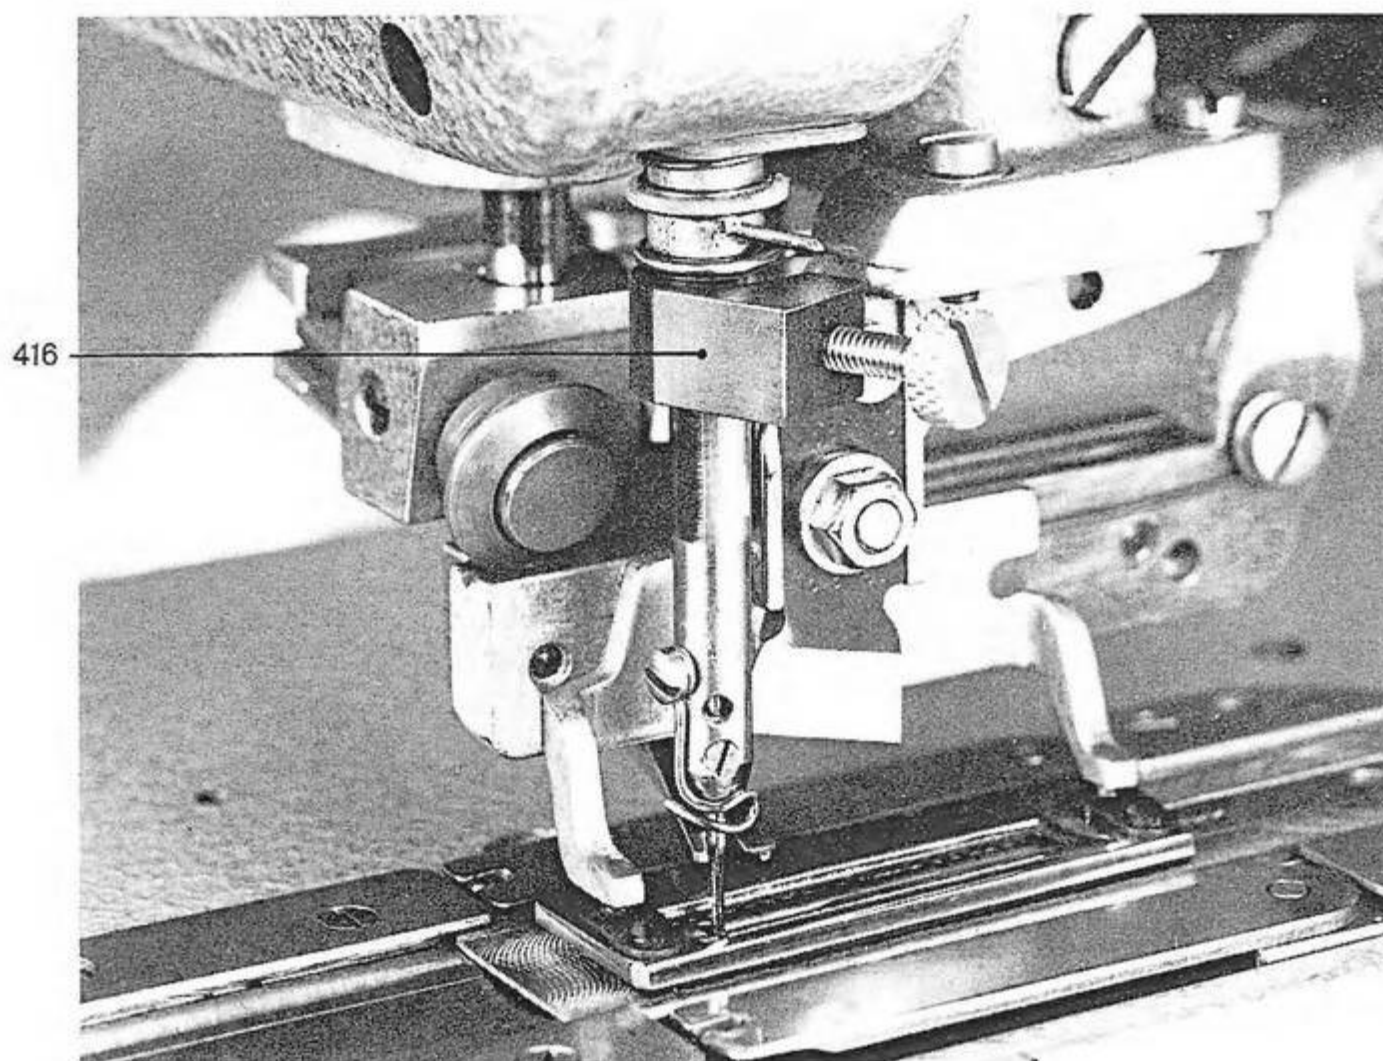

Fig. 98
5. By turning the clutch disk in the direction of rotation, lift the needle bar until the setting cube 416 touches the needle bar crank. See fig. 98.